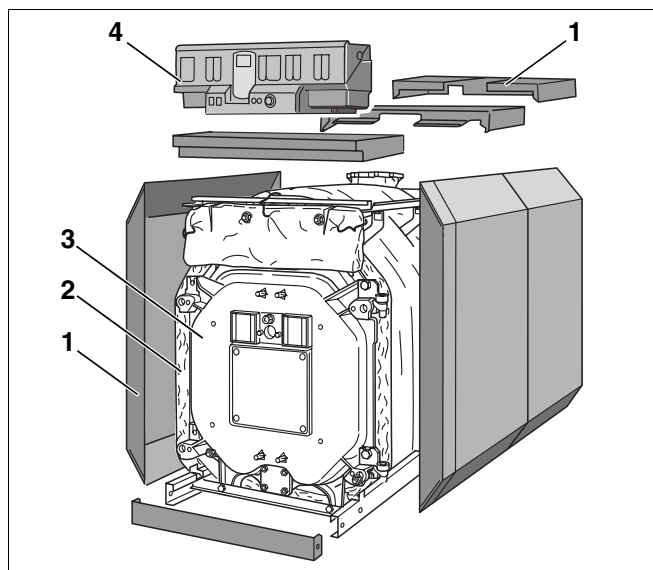
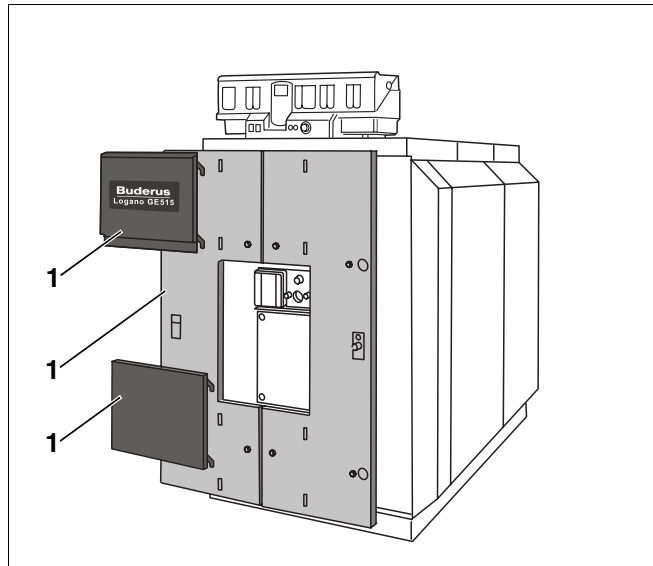

Fig. 1 Logano GE515 oil- and gas-fired special boiler
Fig. 2 Logano GE515 oil- and gas-fired special boiler
- Boiler block (Fig. 1, **item 3**).
- Boiler shell (casing, Fig. 1 and Fig. 2, **item 1**), thermal insulation (Fig. 1, **item 2**).
- Control unit (Fig. 1, **item 4**).